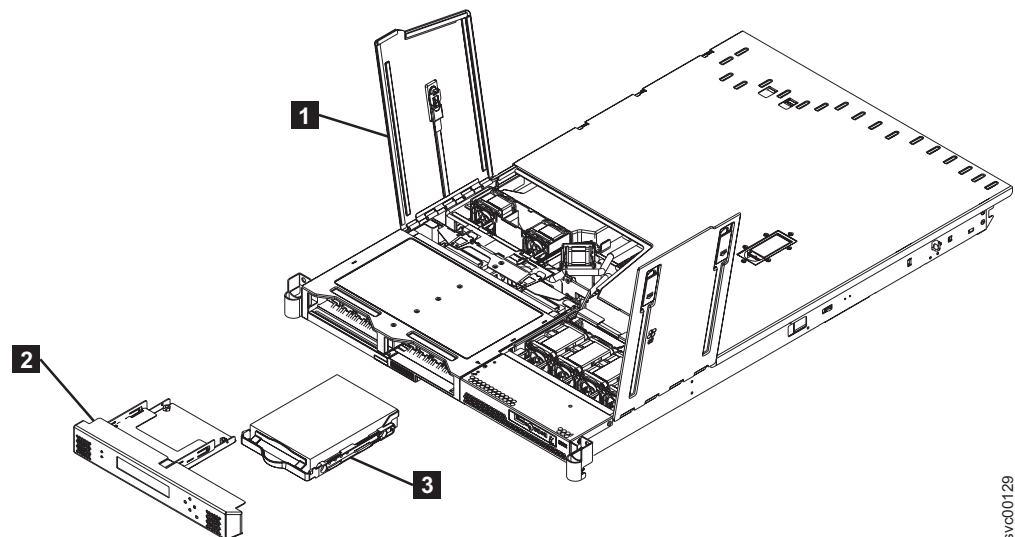

Figure 120. Removing the SATA disk drive
4. Open fan door A (**1** in Figure 120).